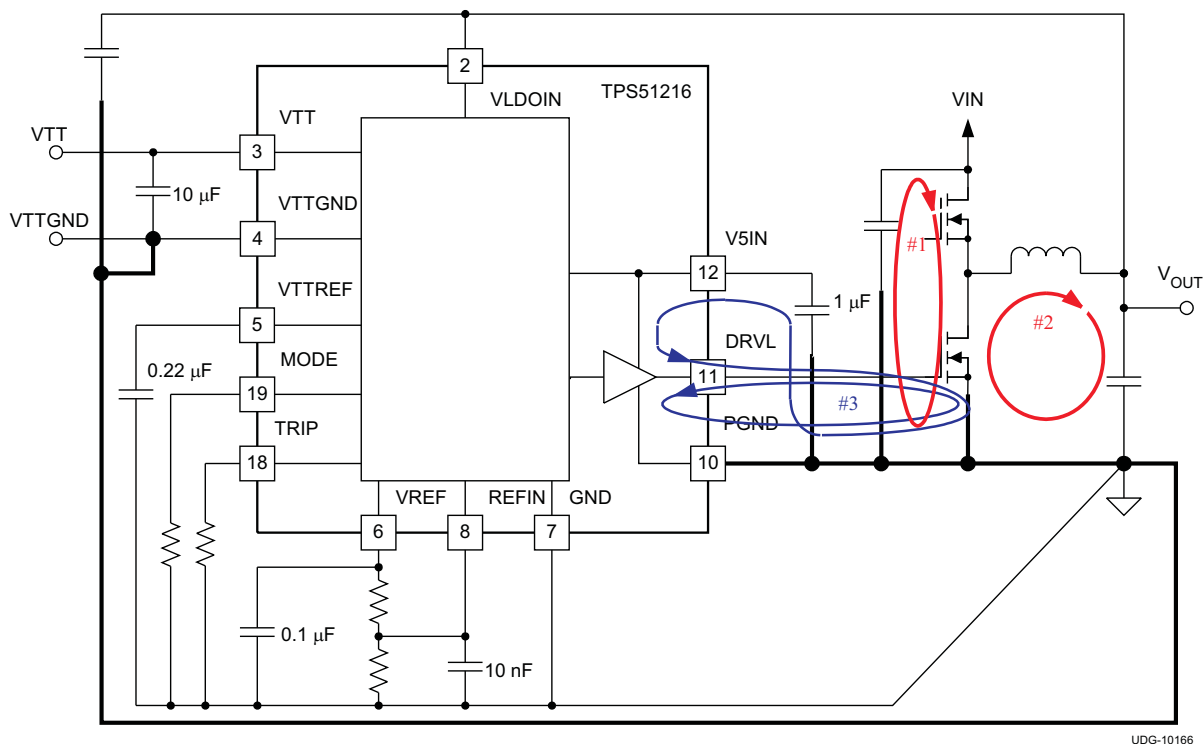

Figure 36. DC/DC Converter Ground System
- The most important loop to minimize the area of is the path from the VIN capacitors through the high and low-side MOSFETs, and back to the capacitors through ground. Connect the negative node of the VIN capacitors and the source of the low-side MOSFET at ground as close as possible. (Refer to loop number 1 of Figure 36)
- The second important loop is the path from the low-side MOSFET through inductor and VOUT capacitors, and back to source of the low-side MOSFET through ground. Connect source of the low-side MOSFET and negative node of VOUT capacitors at ground as close as possible. (Refer to loop number 2 of Figure 36)
- The third important loop is of gate driving system for the low-side MOSFET. To turn on the low-side MOSFET, high current flows from V5IN capacitor through gate driver and the low-side MOSFET, and back to negative node of the capacitor through ground. To turn off the low-side MOSFET, high current flows from gate of the low-side MOSFET through the gate driver and PGND, and back to source of the low-side MOSFET through ground. Connect negative node of V5IN capacitor, source of the low-side MOSFET and PGND at ground as close as possible. (Refer to loop number 3 of Figure 36)